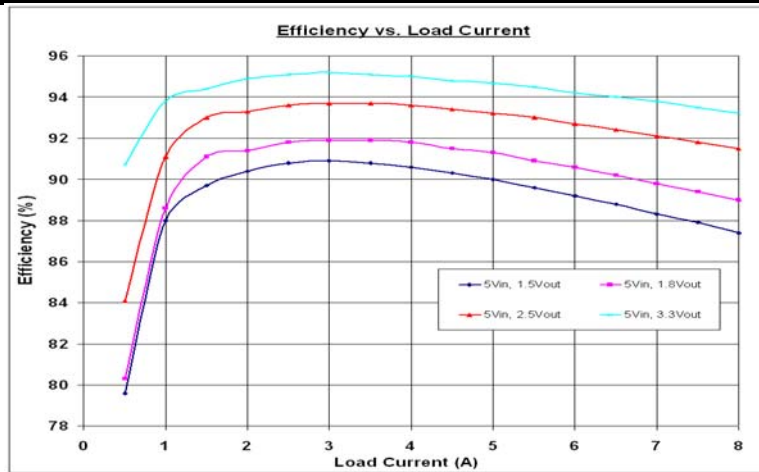
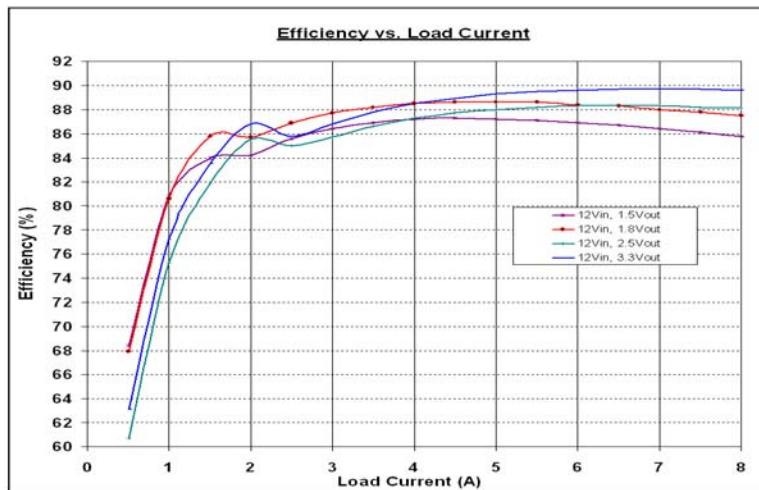
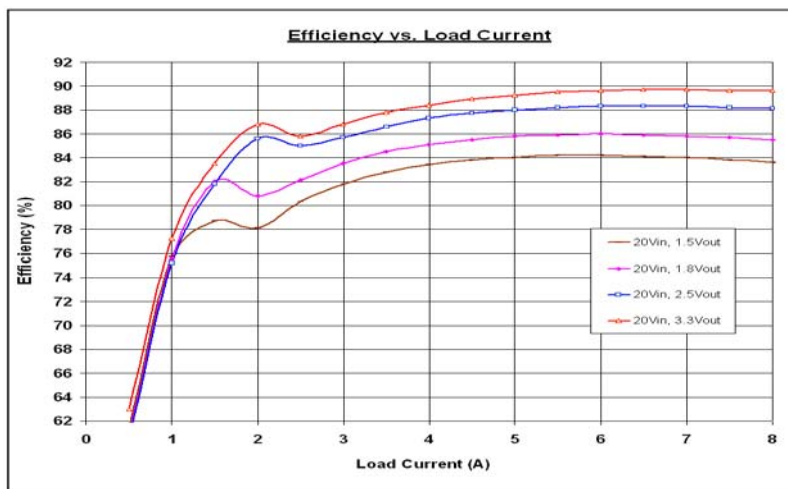

Figure 3. Typical Supply Efficiency vs Load Current of DC1320A-A at $V_{in}=5V$
Figure 4. Typical Supply Efficiency vs Load Current of DC1320A-A at $V_{in}=12V$
Figure 5. Typical Supply Efficiency vs Load Current of DC1320A-A at $V_{in}=20V$
6. Typical efficiency curves are shown in Figure 3, Figure 4 and Figure 5.